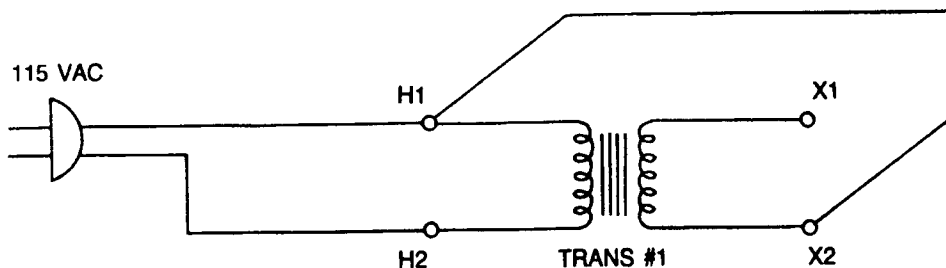

Figure 10
- a. Apply 115 V AC across H1 and H2 (see Figure 10). Measure this applied voltage.